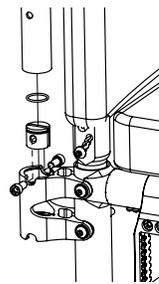

Fig. 19a
- Pull the armrest out of the receiver (1) (Fig. 19a).